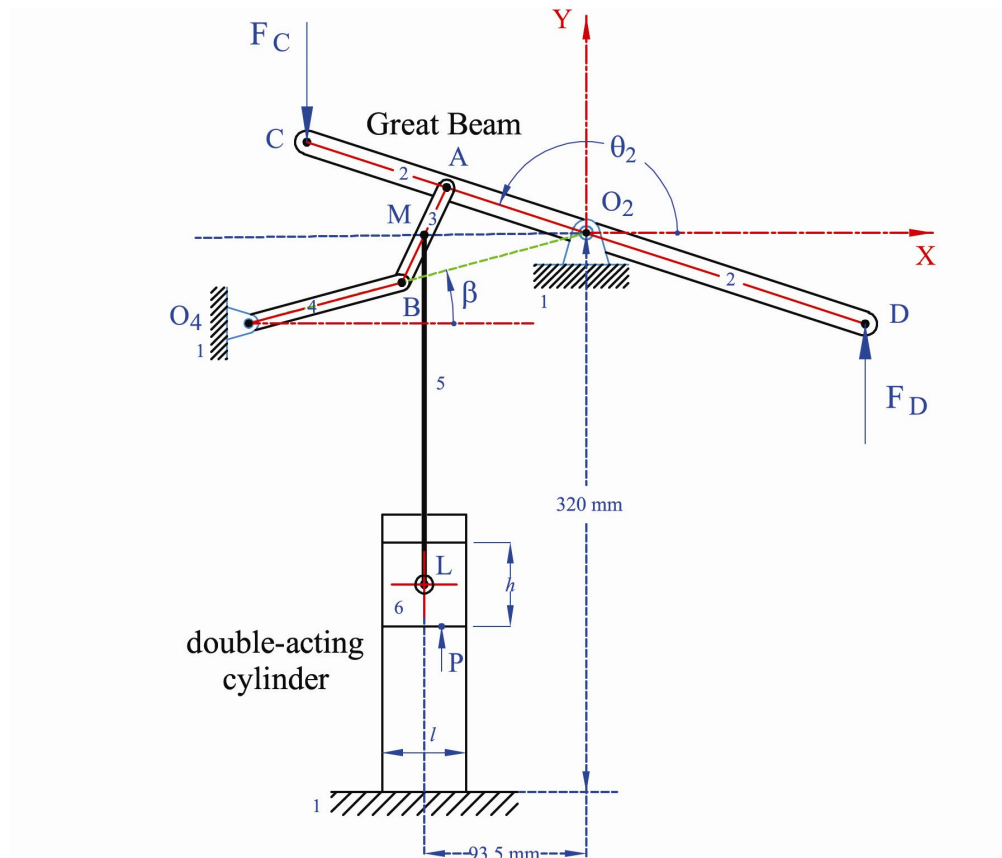

Figure 1. The Watt Four-Bar Linkage. (Not drawn to scale).
The model of the Watt four-bar linkage shown in Figure 1 is proposed as a possible pump or compressor. The ground link 1 is $O_2O_4 = 200$ mm and is inclined at the angle $\beta = 15^\circ$ from the horizontal X-axis. The input link 2 (i.e., the great beam) is $DC = 336$ mm, the distance $O_2C = O_2D = 168$ mm, and the distance $O_2A = 84$ mm. The coupler link 3 is $AB = 60$ mm and the output link 4 is $O_4B = 90$ mm. The location of the coupler point M is $AM = BM = 30$ mm. The piston (link 6) of the double-acting cylinder is connected to the coupler link AB at pin M by the connecting rod ML (link 5). The forward stroke of the piston occurs when pin L moves vertically downward. The length of link 5 is $LM = 200$ mm and the length of the piston is equal to the width of the piston, that is, $h = l = 48$ mm. The vertical distance between the shaft O_2 (coincident with the origin of the fixed Cartesian reference frame) and the ground at the bottom of the double-acting cylinder is 320 mm and the horizontal distance between O_2 and the center of the double-acting piston (that is, pin L) is 93.5 mm. The input link 2 is driven counterclockwise by an electric motor with a nominal (or constant) speed of 15 rad/s counterclockwise (between $156^\circ \leq \theta_2 \leq 220^\circ$).
The two constant external forces $\bar{F}_C = -25 \bar{j} \text{ N}$ and $\bar{F}_D = 20 \bar{j} \text{ N}$ act at points C and D of the great beam. Also, the pressure due to the gas in the cylinder is modeled by the constant force $\bar{P} = 20 \bar{j} \text{ N}$ which acts at a particular point on the bottom face of the double acting cylinder as shown in Figure 1. The horizontal distance between pin L and the line of action of force \bar{P} is 10 mm. The inertial properties of links 2, 3, 4, 5 and 6 are as given in Table 1.
2. Write the symbolic equations that are required to solve all the unknown variables (e.g., the internal reaction forces, the crank torque, and any distances). The equations should be written in terms of the fixed X-Y coordinate system shown in Figure 1.